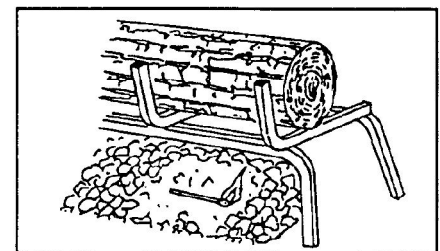

Figure 8. Lighting the log set
**Do not hold match in hand** (See **Figure 8**).